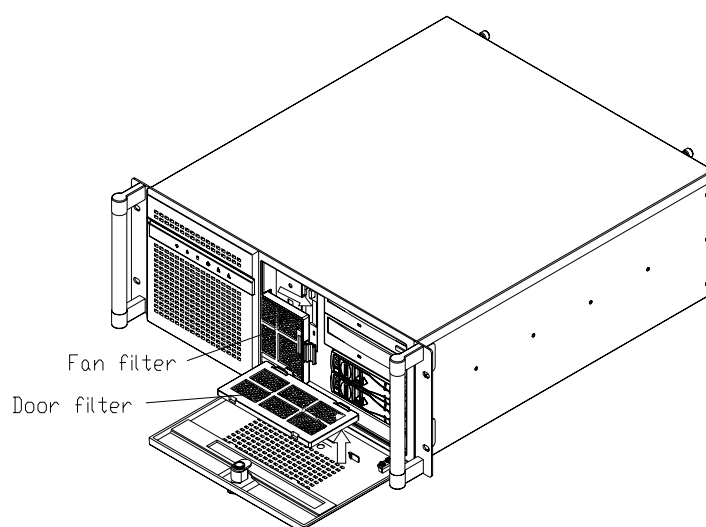

Figure 3.5 Removing the filters
3. Clean the filters with a soft brush or wash the dust away from the filters under running water. Then dry it. (see Figure 3.5)